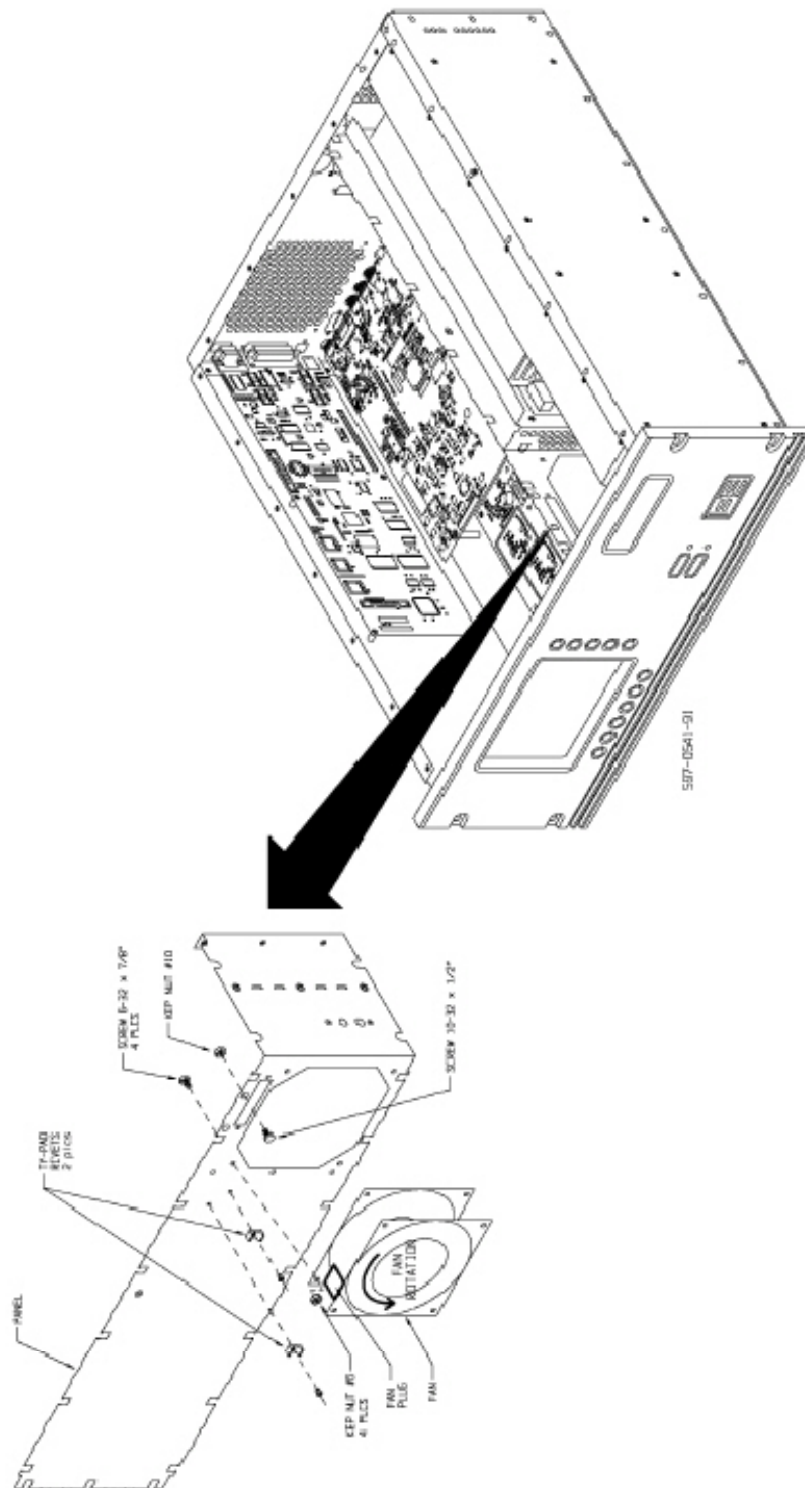

Figure 5-14. FXi FAN REMOVAL AND REINSTALLATION
Figure 5-14. The fan is mounted in the largest chassis compartment. The exciter must be removed from the rack and safely resting on a flat surface before the procedures are performed. All input power to the FXi must be removed.
5. Figure 5-14.